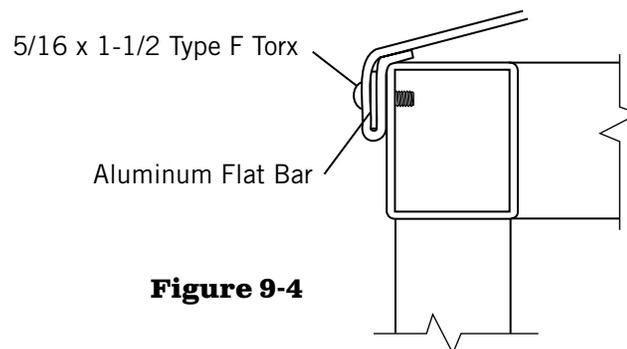

Figure 9-4
- 12) **Figure 9-4.** Drill holes evenly spaced through aluminum flat bar and attach with 5/16 x 1-1/2 Type F Torx.